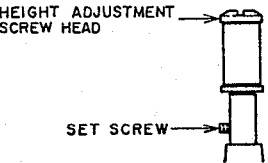

Fig. 4-11
1) Slightly loosen the set screw at the lower part of the LOADING LEADERS (L, R) so that the LOADING LEADER can be adjusted with reasonable tightness. (Refer to Fig. 4-11.)